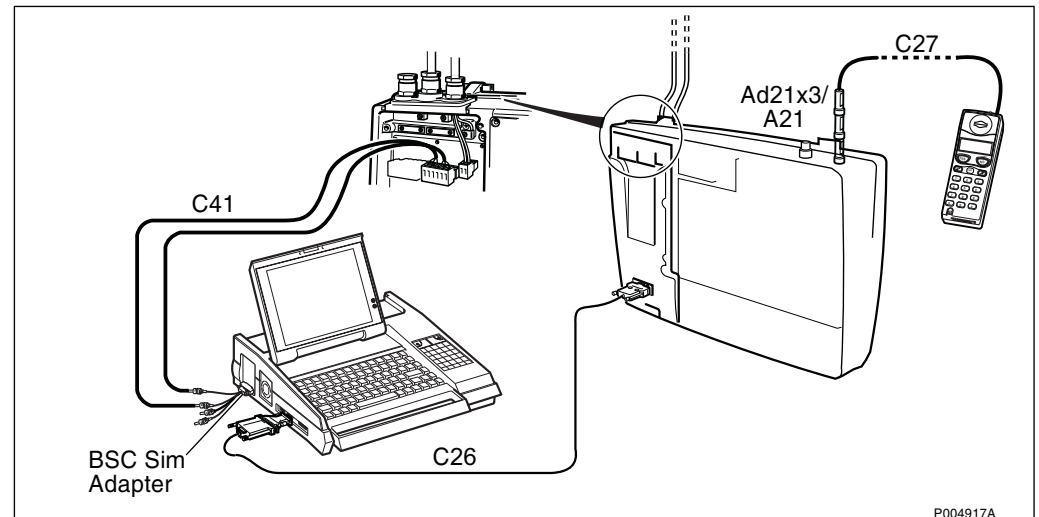
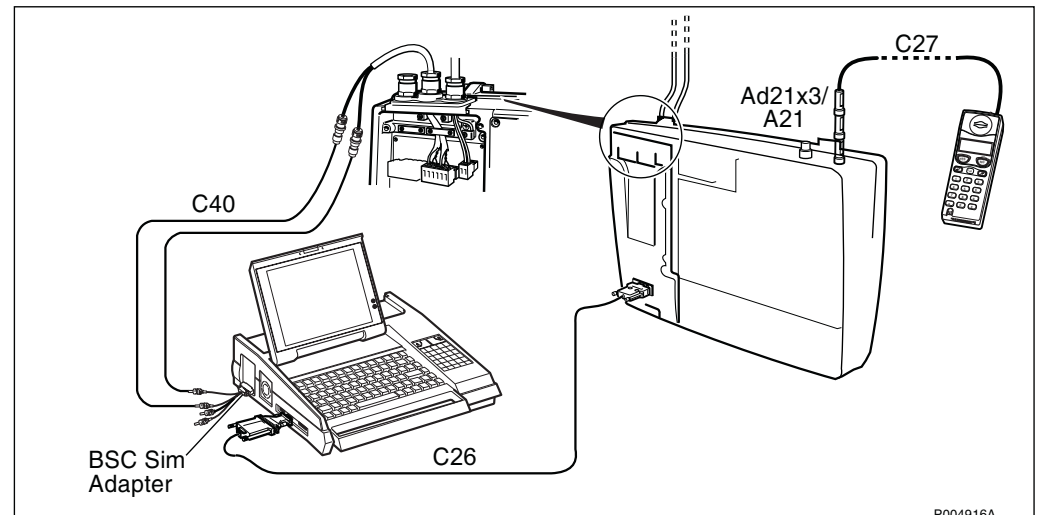

Figure 75 Test setup for T1 100 Ω (1.5 Mbit/s) and E1 120 Ω (2.0 Mbit/s)
Figure 76 Test setup for E1 75 Ω (2.0 Mbit/s)
1. Connect the cables according to Figure 75 on page 63, or Figure 76 on page 63.